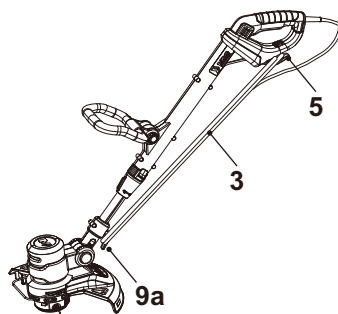

Fig. 28
5. Wrap the power cord (3) onto the two cord containers (5, 9a) and secure it with a suitable cord clip (Fig. 28).